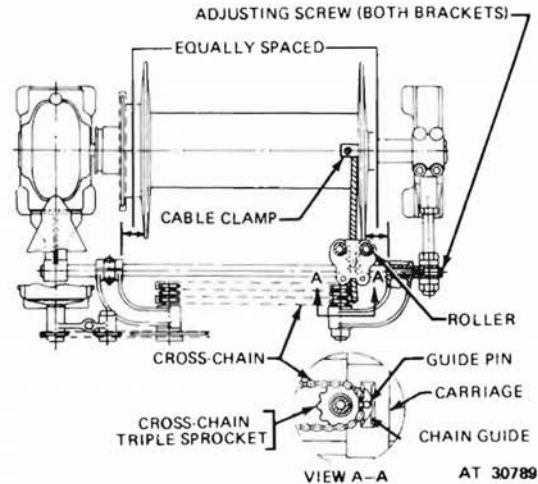

Figure 459. Carriage travel adjustment.
Engage winch drum brake, and unwind cable from winch drum. Remove the screw and cable clamp (fig. 459), attaching cable to drum, and remove cable.
- (1) Be certain that the cable level winder carriage has reached the end of its travel toward the end of drum as shown in figure 459, before attaching cable to drum. The extreme end point of carriage travel is when the carriage guide pin in chain guide is on the outside of the cross-chain sprocket, with the pin centrally located—in vertical slot in carriage.
*Note.* During winding of the cable on drum, the cable and carriage horn may have a tendency to become misaligned. If this situation occurs, disconnect second reduction drive chain from level winder (para 418c (1)), then rotate large chain sprocket until alignment is accomplished. Reconnect chain and adjust if necessary after alignment (para 418c (2) and (3)).
- (2) Thread end of new 700 foot cable through the rollers on carriage horn, and attach it to winch drum with cable clamp and 5/8-18 x 1-3/4 cap screw. The end of cable should not extend through the clamp farther than necessary since the protruding end may cause uneven winding of cable. Drive winch in forward direction keeping considerable tension on cable as it is wound onto drum. If necessary, adjust carriage travel (para. 418 d (3)) if cable does wind evenly onto winch drum.
- (3) After required amount of cable is wound onto drum, cut off cable and splice eye into end of cable as described in TM 5-725.
- (2) **Installation.** Connect end of chain to chain guide with two pins and clips. Position cross-chain on chain triple sprockets, with guide pin inserted between wear plates in carriage. Connect end of chain together with connecting link, then adjust carriage travel and chain tension (3)(b) below. Install cross-chain cover and second reduction drive chain in reverse order of removal after carriage travel adjustment is complete.
- (3) **Carriage travel adjustment (fig 459).**